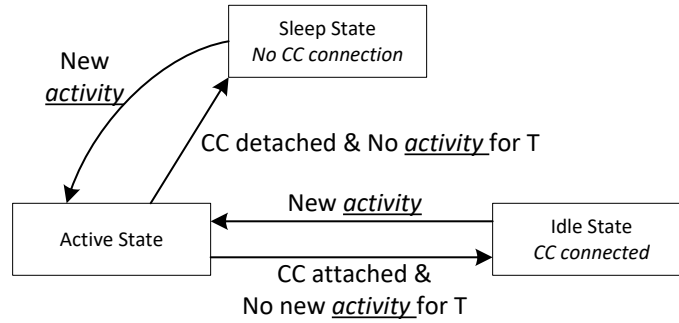

Figure 7-28. Flow Diagram for Power States
The TPS25752A can operate in one of three different power states: Active, Idle, or Sleep. The Modern Standby mode is a special case of the Idle mode. The functionality available in each state is summarized in Section 5.7. The device automatically transitions between the three power states based on the circuits that are active and required. See Figure 7-28. In the Sleep state, the TPS25752A detects a Type-C connection. Transitioning between the Active mode to Idle mode requires a period of time (T) without any of the following activity: